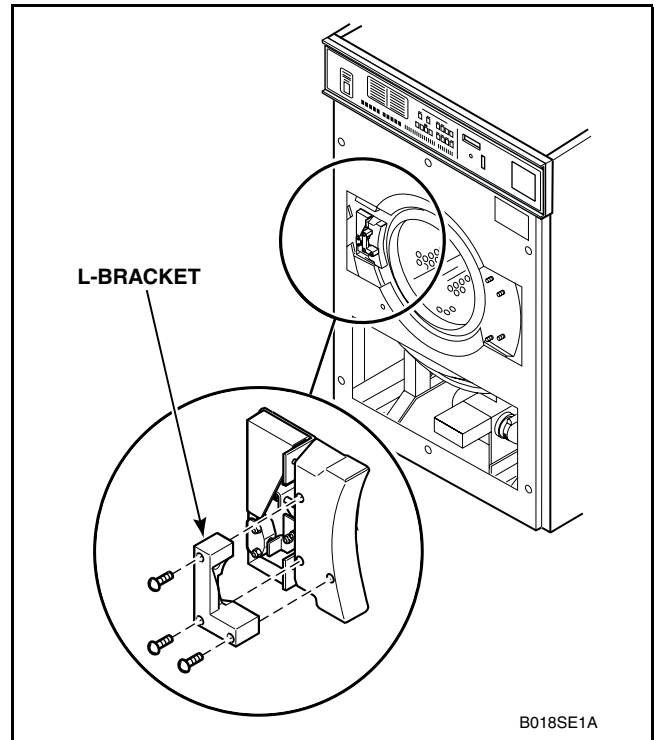

Figure 19
- c. Remove three screws holding L-bracket to shell front, refer to *Figure 19*.